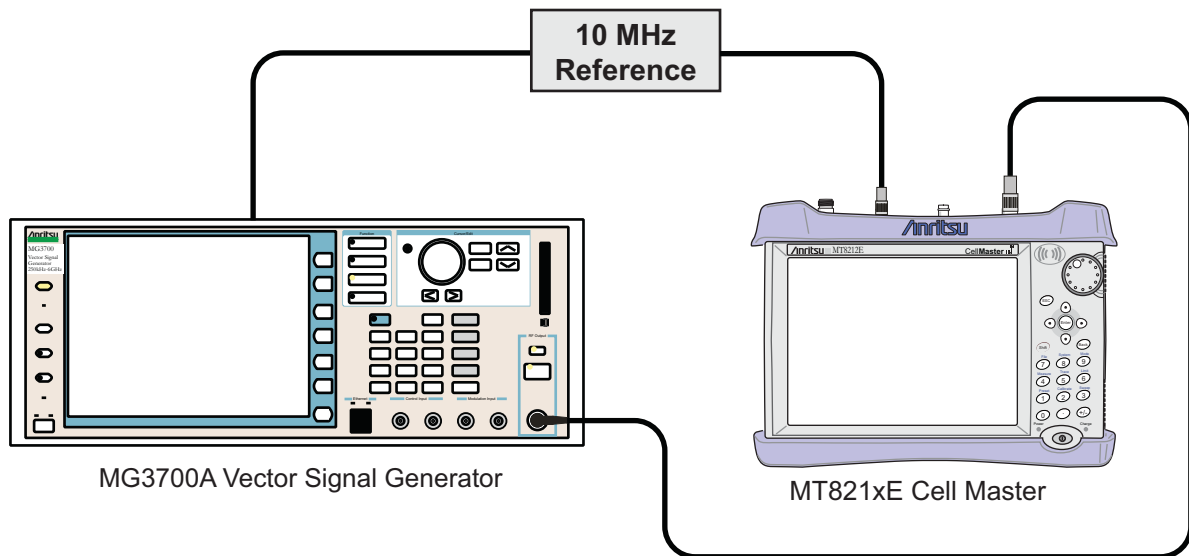

Figure 5-20. Mobile WiMAX Residual EVM and Frequency Error Test Setup
1. Connect the equipment as shown in Figure 5-20.